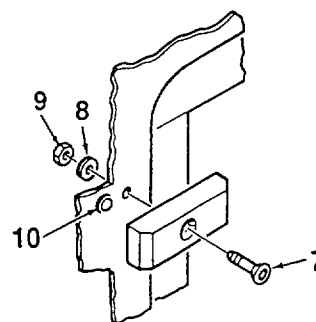

Figure 4-3. Access Door
1. Open oil filter access door (2, Figure 4-3) by turning door latches (1).
1. Install two door latches (1, Figure 4-3) onto APU enclosure using screws (7), washers (8), and locknuts (9). Screw detent plungers (10) into enclosure.
2. Place door (2) in position on enclosure. Secure hinge (6) to enclosure surface using four screws (3), eight washers (4), and four locknuts (5).
3. Close door (2) and lock by turning door latches (1).